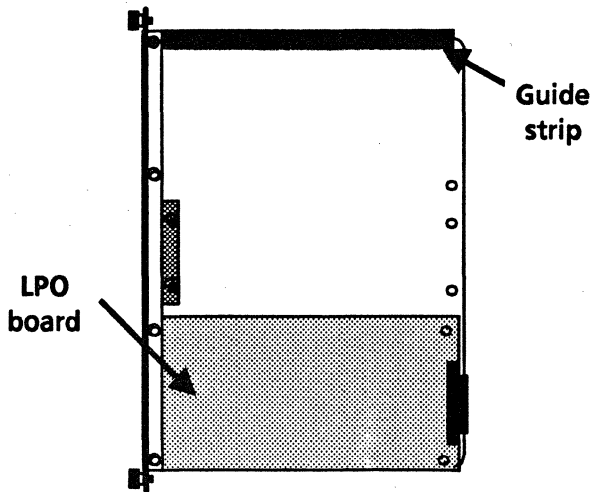

Figure 2-2 C5 shield with LPO board and guide strip
6. Install the new C5 shield with the LPO board in the C5 processor slot. Be sure to line up the edges of the LPO printed circuit board and the guide strip (Figure 2-2) with the guide rails in the processor. Push the shield gently into place. Do not force the shield into the processor; forcing the shield could damage the circuit board connector and the backplane. Tighten the two screws finger tight.